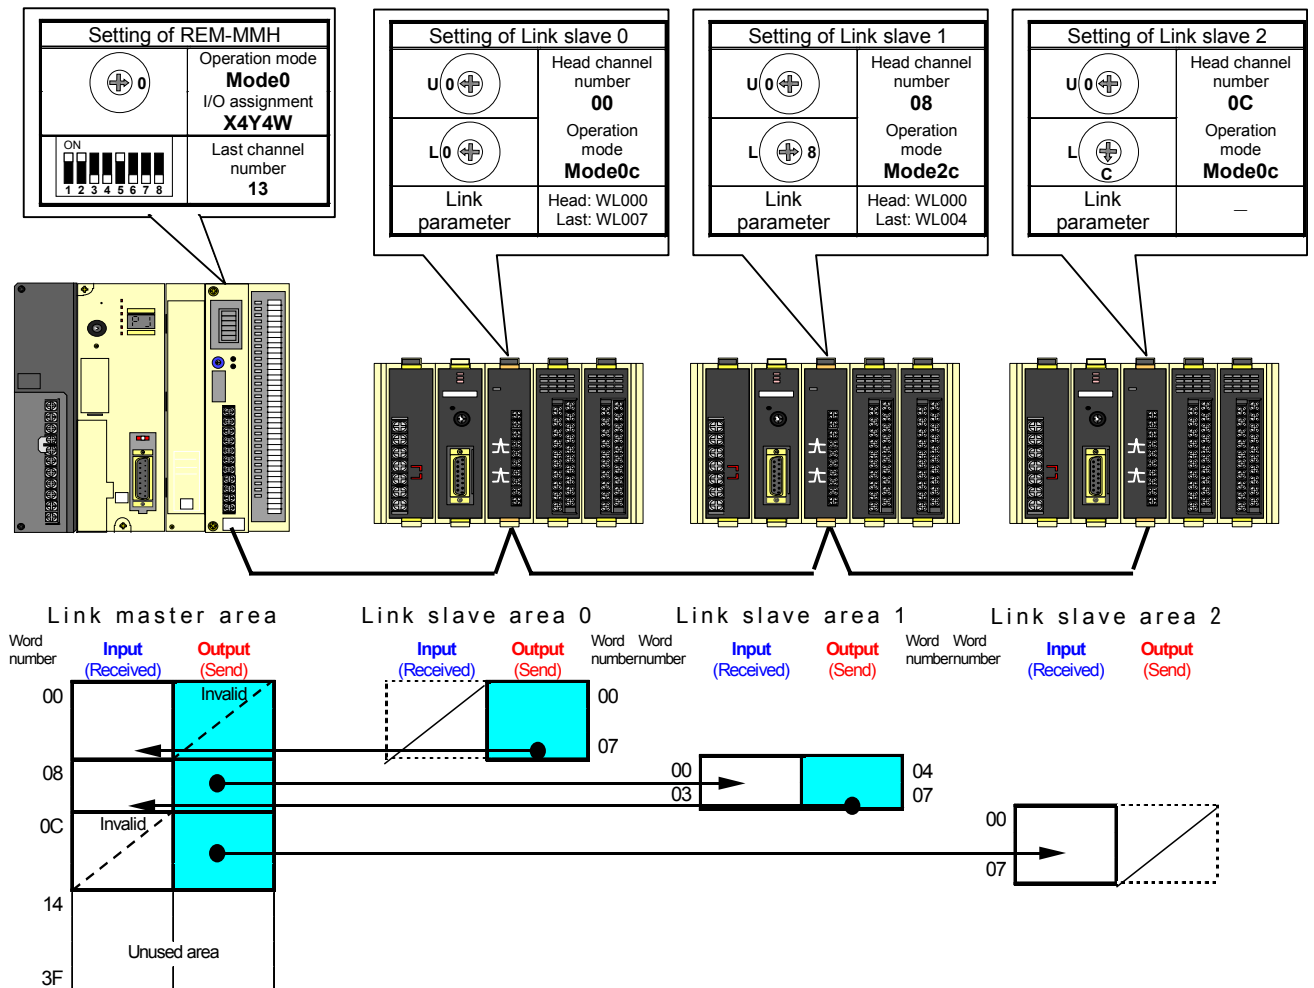
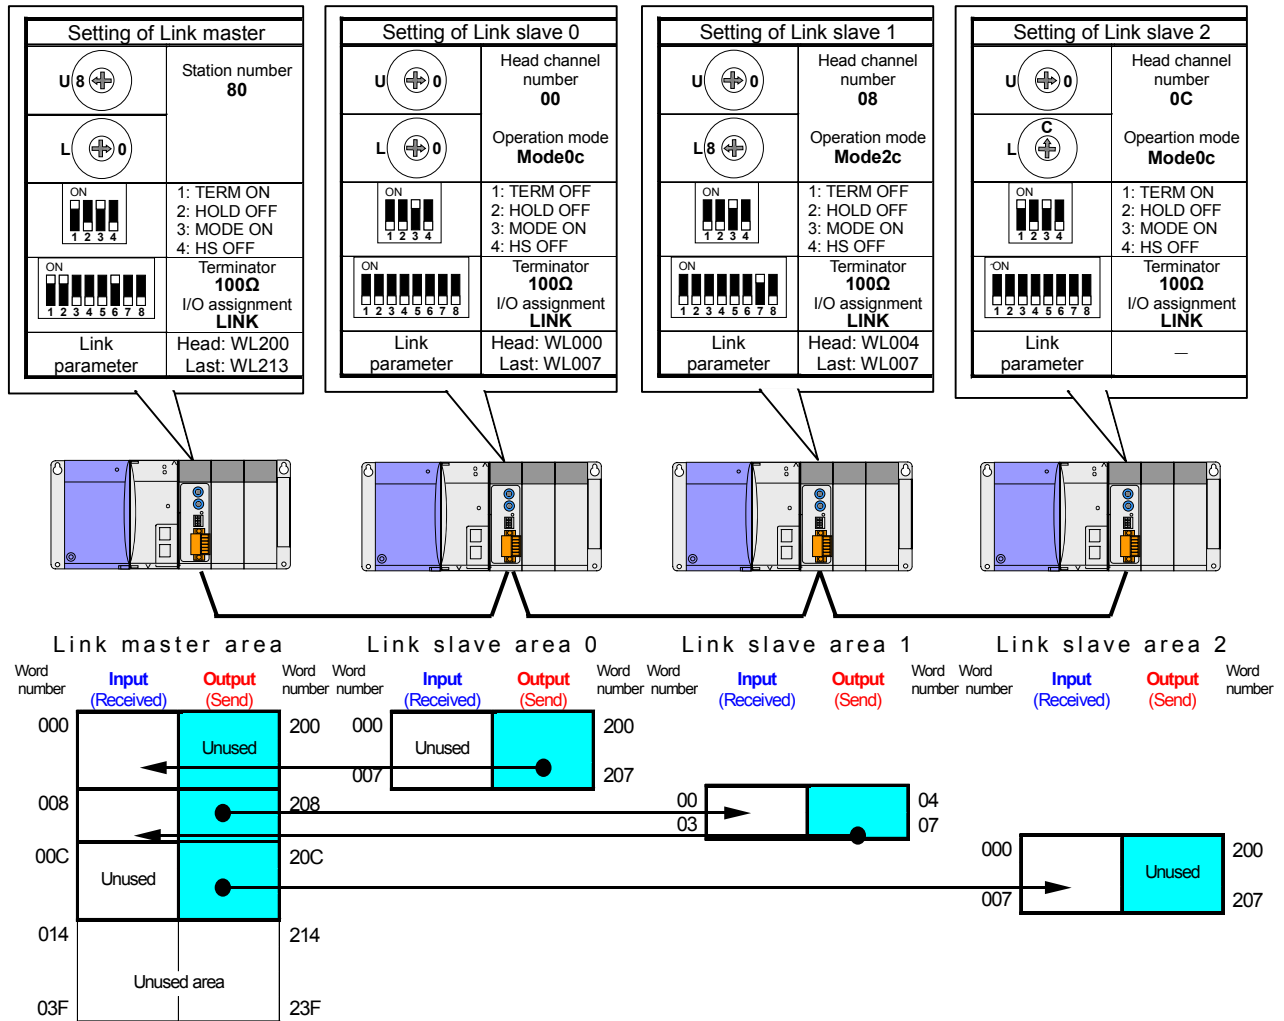

Figure 4.5.1 System configuration example including the REM-LH2
Figure 4.5.2 Replacement system configuration (Slave: Mode0c, Mode2c)
Figure 4.5.1 shows the system configuration example of the H-200/250/252B/252C series. Figure 4.5.2 shows the replaced system configuration example of the EH-150 series.
Figure 4.5.2 is an example of replacing all of link system with the EH-150 series. It is also possible to leave all or partially stations of the H-200/250/252B/252C series in order to postpone the wiring work of stations. In this case, please turn on communication mode (MODE), and turn off high-speed refresh mode (HS) of the front Dipswitch of the compact link modules.